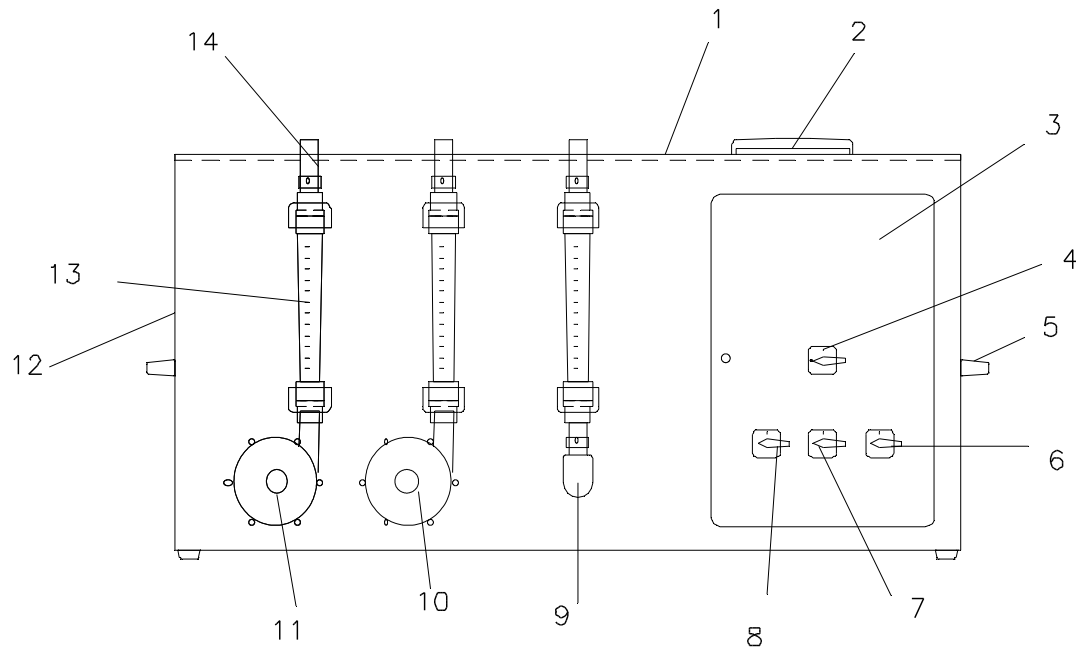

Fig. 3: PCCell B-ED 1-2 setup and functional parts.
The bench electrodialysis pump unit PCCell BED 1-2 (PCCell BED 1-3) is controlled by 4 (5) switches (see fig. 3) in the front of the control box:
- Main switch (Fig. 3: 4): activates the electrical supply for the pumps and the DC power supply to the eED cell.
- Pump 1: Diluate (Fig. 3: 8)
- Pump 2: Concentrate (Fig. 3: 7)
- Pump 3: Electrolyte (Fig. 3: 6)
The DC power supply can be switched on (at its main switch, No. 1 in Fig. 4) only in case the pump unit's main switch (Fig. 3: 4) is in position "on".
The bench electrodialysis pump unit PCCell BED 1-2 and PCCell BED 1-3 contains an internal electrolyte circuit. Fig. 4 no. 6 shows the cap of the electrolyte container. It consists of a polypropylene tank with a nominal volume of 9 l. It should be filled with 2 liters electrolyte minimum, to fill the internal impeller pump. This pump is activated by a switch on the control box (Fig. 3 no. 6).